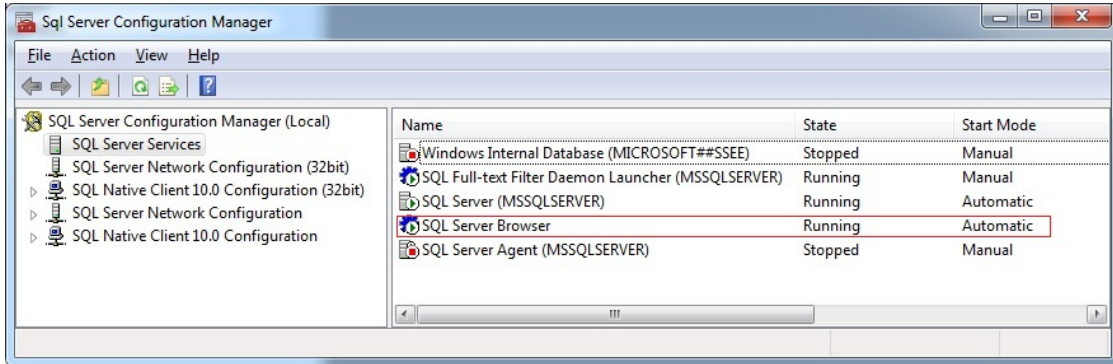

Figure 3-15
6. Verify that **SQL Server Browser** is **running** and set to **Automatic** Start mode. See Figure 3-15.